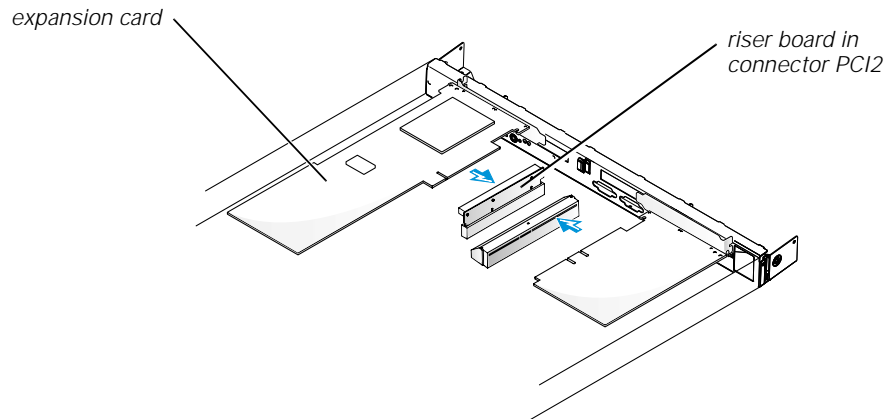

Figure 1-2. Expansion-Card Installation
5. To install the card, first align the metal mounting bracket with its slots on the back panel and then insert the card-edge connector firmly into the connector on the 5V riser board (see Figure 1-2).